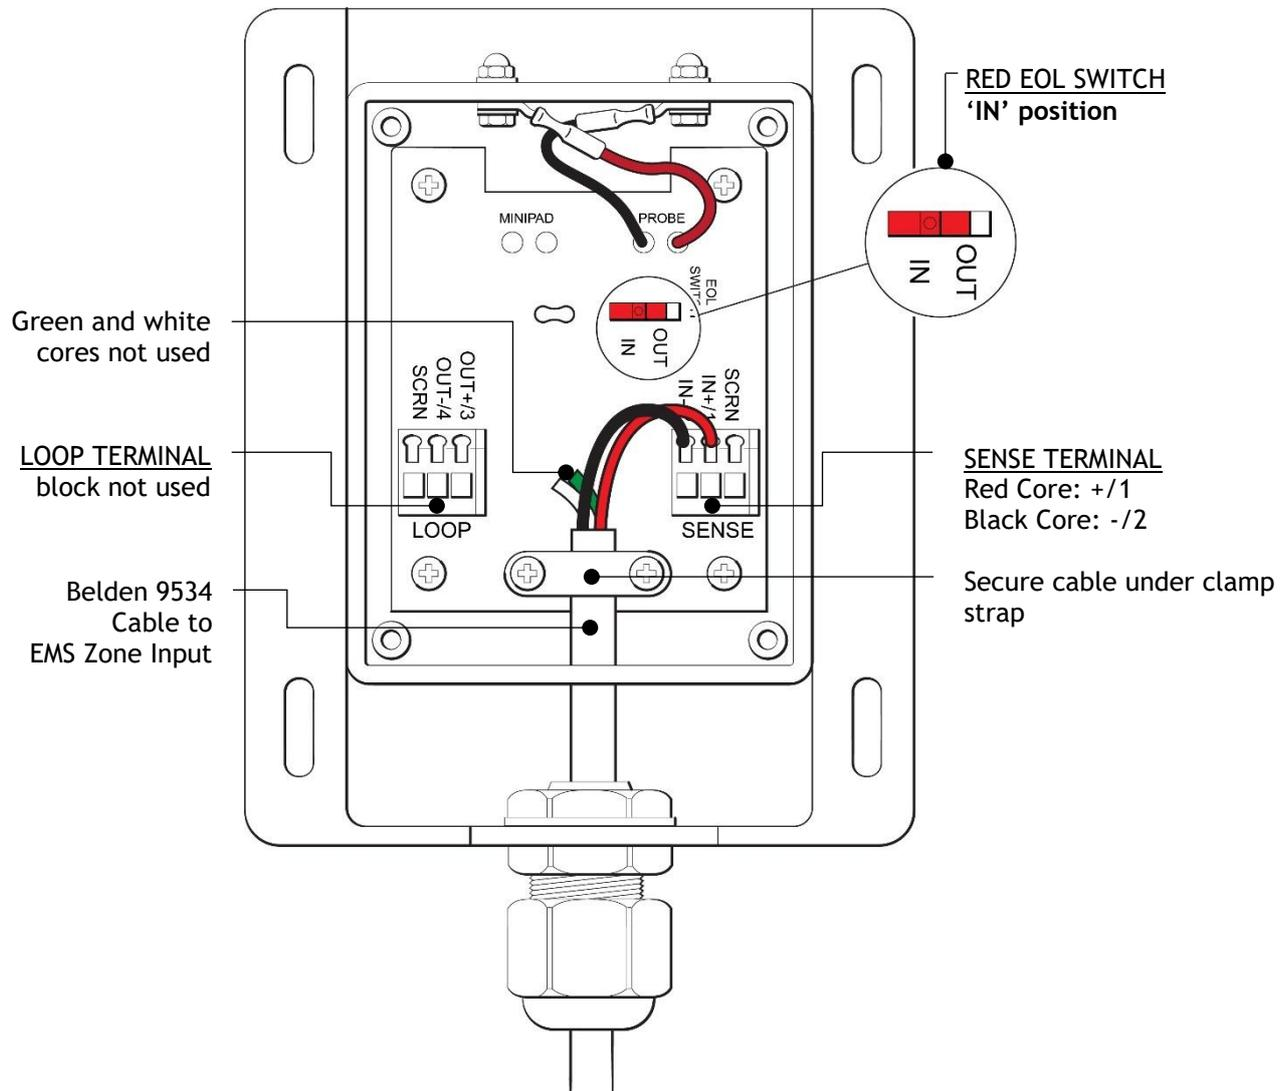

Figure 9: Sensor Cable using Single ESD Sensor Probe
3. Connect the opposite end of the **leader cable** to the **ESD probe** (Figure 9).